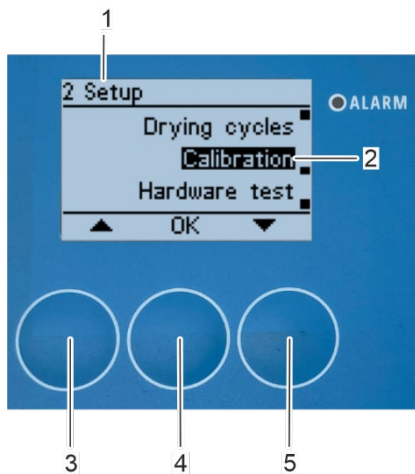

Fig. 138: Open submenu „Calibration“
⇒ The "2 Setup" submenu appears on the display again (Fig. 138/1).
1. To perform a renewed calibration, select the “*Calibration*” submenu (Fig. 138/2) with the arrow keys [*up*] (Fig. 138/3) and [*down*] (Fig. 138/5) in “2 Setup” submenu (Fig. 138/1).
2. Confirm the selection with [*OK*] (Fig. 138/4).